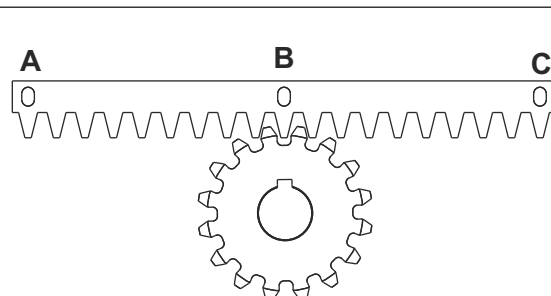
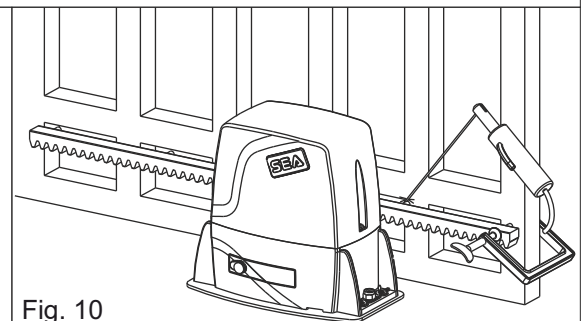

Fig. 9
Fig. 10
**5.3.** Lean the gear rack element on the toothed pinion of the operator in parallel to the ground slideway of the gate, as shown in Fig. 9 and electrically weld the central pawl **B** to the gate structure (Fig. 10). Manually move the gate until pawl **C** is placed in front of the pinion and fix it through electric welding. Repeat the same procedure for pawl **A** after having placed it in front of the pinion;